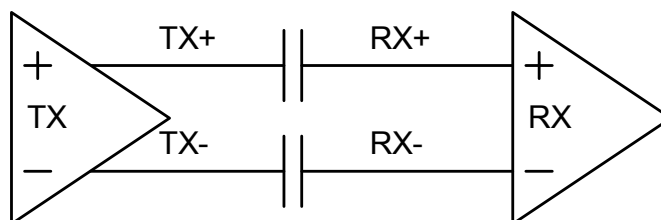

Figure 16. AC Coupled Connection
The fault detection across AC coupled connections can be detected with a combination of (DC) EXTEST and any one of the AC JTAG commands. The AC coupled connection is shown in Figure 16. The fault signature is listed in Table 27. Column 1 lists the fault type.